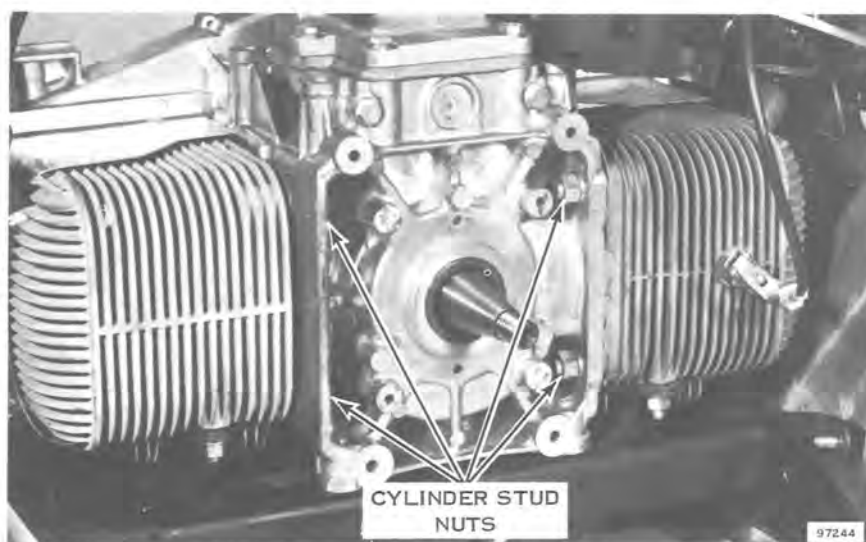

Figure 9-5
- h. Remove the cylinder stud nuts and lockwashers. The cylinder barrel can now be removed from the crankcase. See Figures 9-5 and 9-6.